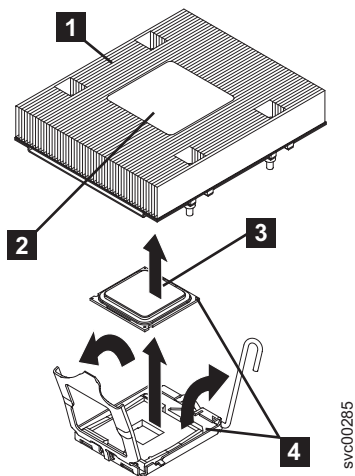

Figure 181. Removing the heat sink from the microprocessor
3. Remove the heat sink (**1** in Figure 181). Loosen two captive screws on alternate sides of the heat sink fully before loosening the other two captive screws. (This helps to break the bond between the heat sink and the microprocessor.) After the captive screws are loosened, remove the heat sink.